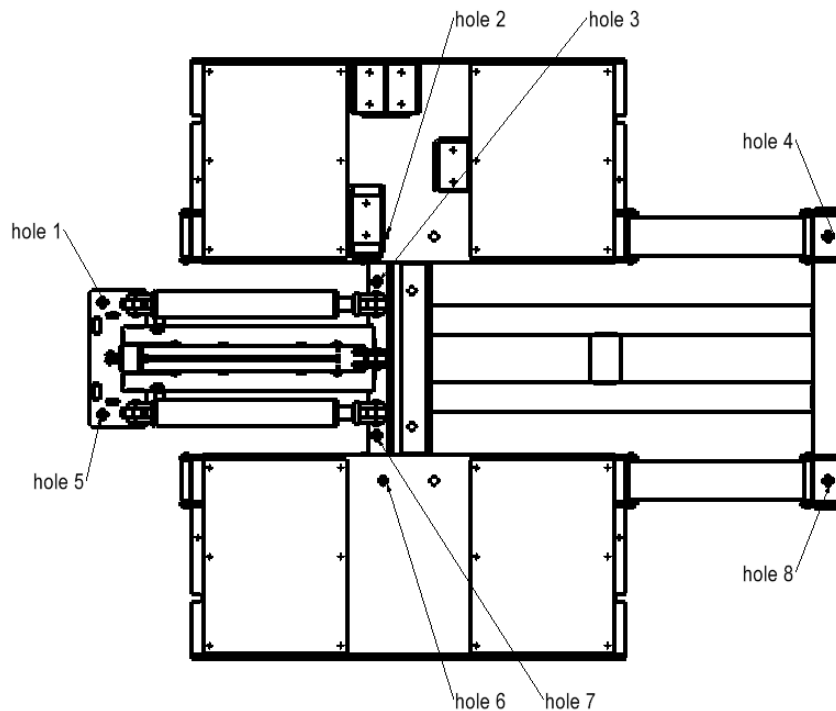

Fig. 4
D. Drill (8) 5/8 inch (or 16mm) diameter holes in the concrete floor, using the holes in the base plate as a guide (refer to Fig. 4). Drill the holes through the floor or to a minimum depth of 5 inches. If possible, drill completely through the floor.